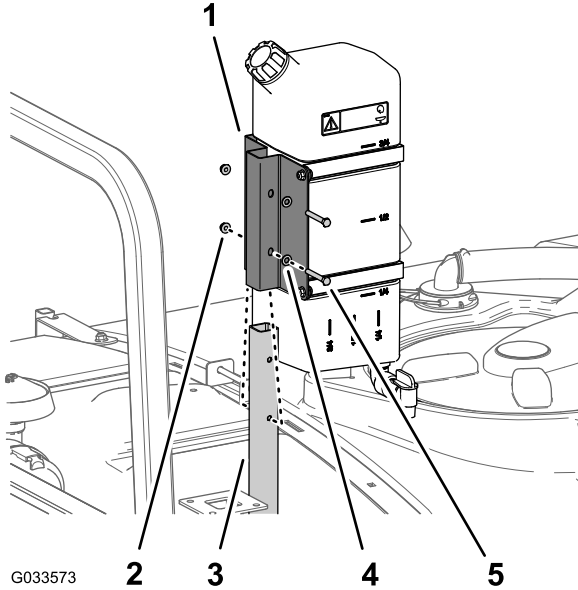

Figure 47
1. Assemble the freshwater tank and mount onto the support tube with the 2 bolts (5/16 x 2-1/4 inch) and 2 flange locknuts (5/16 inch) as shown in Figure 47.